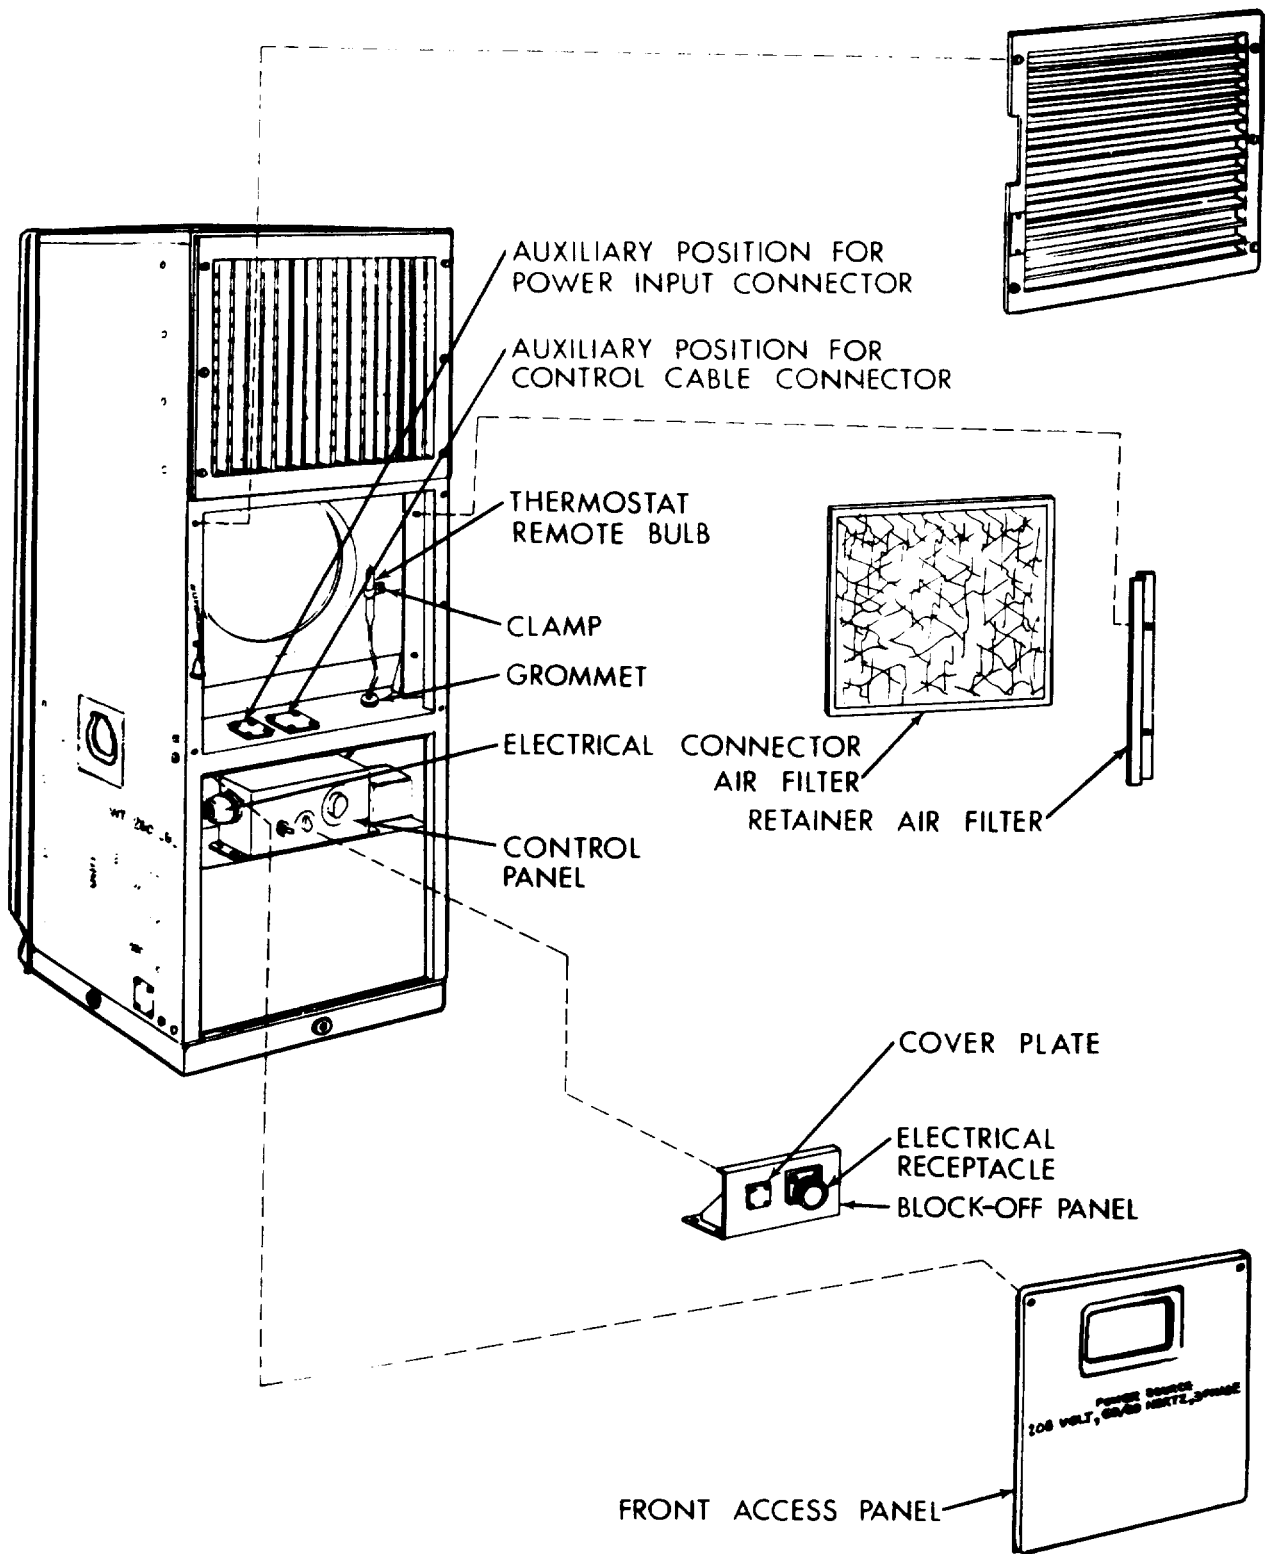
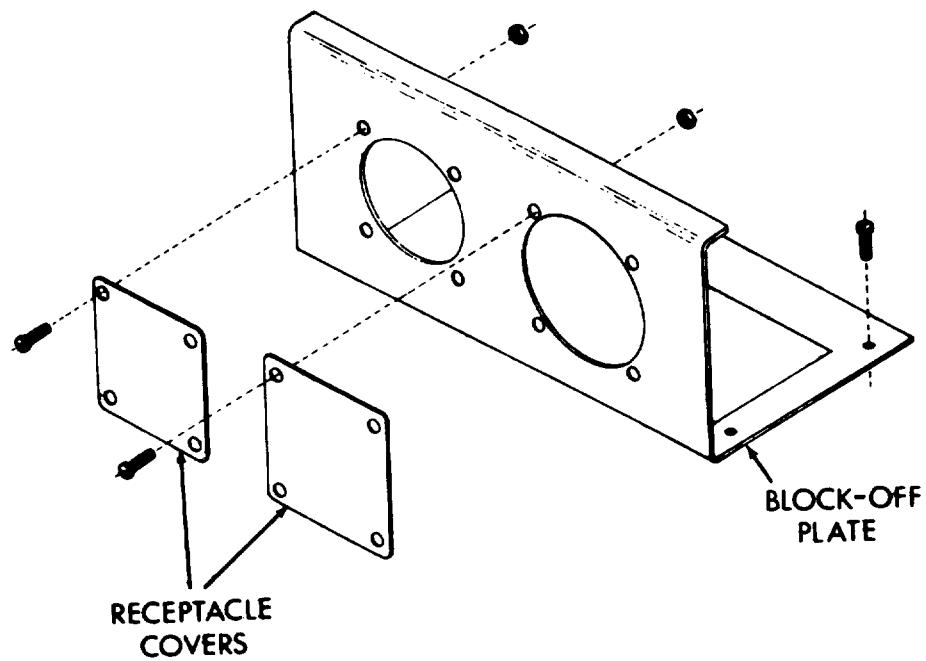

Figure 4-2. Remote Control
Figure 4-3. Block-Off Panel
- (3) Disconnect the wiring harness connector from the receptacle on the left end of the control panel assembly (figure 4-2).
- (4) Remove the four screws securing the control panel assembly to the junction box. Retain the screws.
- (5) Remove the air filter.
- (6) Loosen the loop clamp which retains the temperature control thermostat sensor bulb on the right, hand side of the evaporator fan. Lead the bulb and capillary tube carefully through the grommet while removing the control panel from the air conditioner. Coil the capillary tube carefully, and mount the sensor bulb in the outside cavity of the control panel housing, using the loop clamp from its original location.
- (7) Install a block-off assembly on top of the junction box, in the same position as that from which the control panel assembly was removed. Secure with the four screws retained in step (4). (See figure 4-3).
- (8) Mount the control panel assembly in the desired remote location, and mount a new receptacle, MS3106R-28-11S, in the appropriate position in either the block-off plate or the partition between the evaporator intake louver and the air filter.